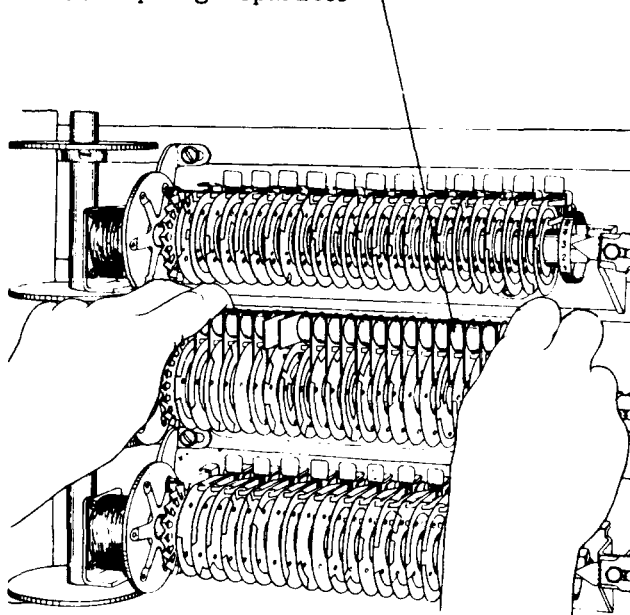

Fig. 11 - Method of Using the No. 352 Spring Separator
3.19 Using both hands on the spring separator as shown in Fig. 11, pull the separator toward the front of the switch until the contact springs are approximately centered on the insulators of the separator.